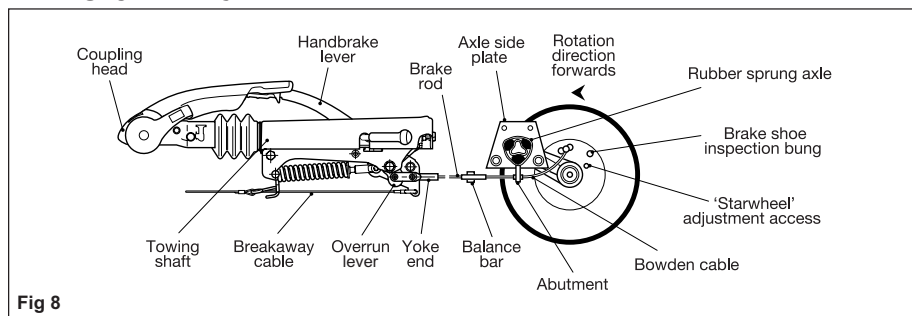
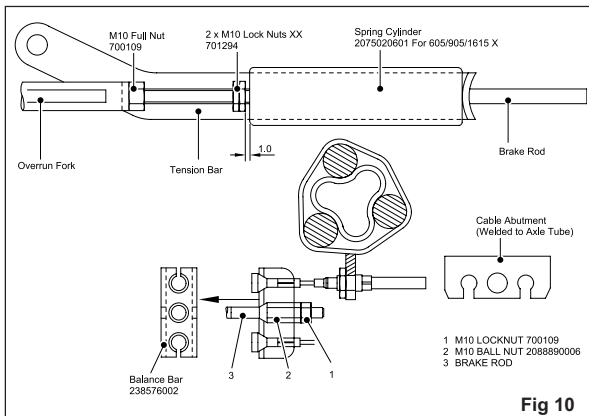

Fig 8
Fig 10
- Ensure the towing shaft with coupling heads is pulled fully forward (Fig. 8).
- Release the handbrake to the fully off position. If the handbrake will not go down the whole way because of the fairing or any other obstruction; then the fairing must be cut away and/or the obstruction removed to achieve this desired position. It will not be possible to set up the braking system properly when the handbrake is not in the fully off position (Fig. 8).
- Remove the inner plastic bung from the backplate to expose the 'starwheel' adjuster access (Figs. 8 & 9).
pulled out it should extend between 5 and 8 mm (Fig. 8). (On tandem axles a double abutment is fitted to the front axle only).
- Ensure the balance bar (compensation) is being pulled evenly. This bar (double on tandem axles) should always be paralleled with the axle tube when pulled (Figs. 8 & 10). Adjust M8 lock and ball nuts, if necessary, to achieve correct parallel position (Fig. 10).
- Over adjustment to the long ball nut (Fig 10), could induce movement of the inner brake cable, reducing the effective clearance of the brake shoes. If the overrun lever will not make contact, it is possible the two lock nuts, forward of the spring cylinder, are incorrectly adjusted. Loosen the nuts and adjust the brake rod as above (Figs 8 & 10).
- Adjust the two locking nuts, forward of the spring cylinder (Fig. 10), (on some chassis a single Nyloc nut is used) to
(See Fig. 10). If the overrun assembly is fitted with a gas strut handbrake then no spring cylinder is fitted - therefore ignore this paragraph).